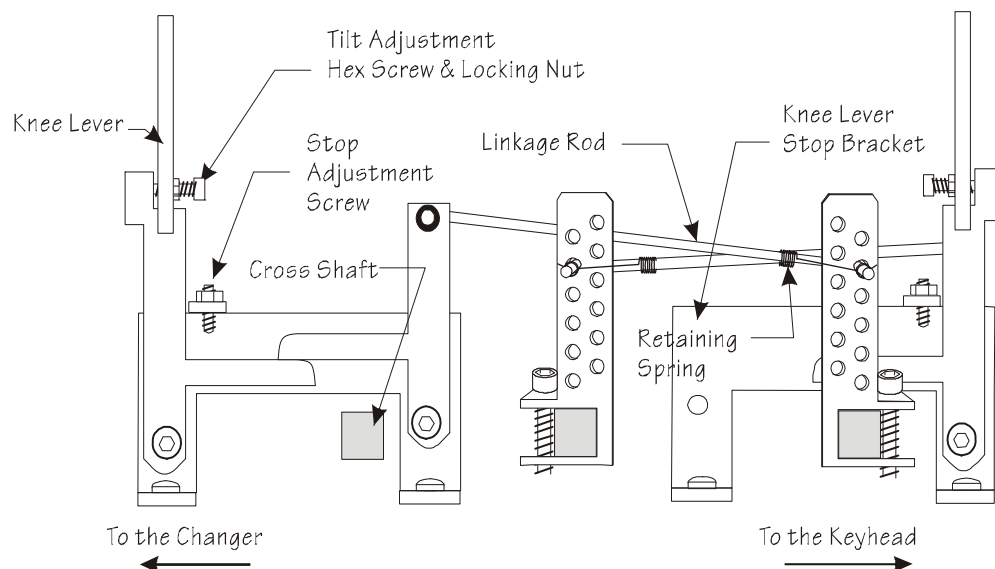

Figure 4
3. **Knee Lever Travel:** Knee Levers can have their amount of travel increased or decreased in either *or* both of the following ways (See Figure 4, below.):
4. **Knee Lever Tilt:** Each knee lever has an individual tilt adjustment screw. This screw does *not* affect the tuning or function of the knee lever; it only affects the position of the knee lever. Adjust the screw to bring the knee lever to the position you desire and re-tighten the locking nut. (See Figure 4, below.)
5. **Knee Lever Slack:** Knee lever "back-slack" is fixed and preset at the Factory. The slack stop is integral to the bracket and is NOT adjustable. (See Figure 4, below.)